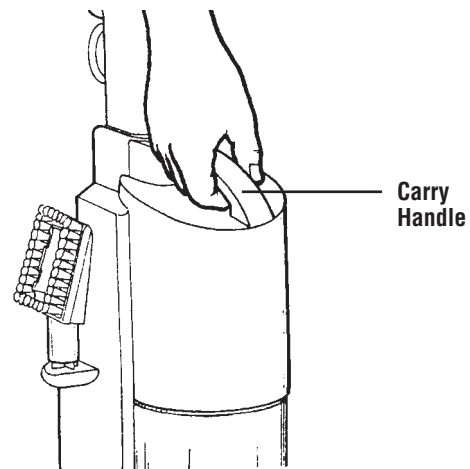

Figure 7
2. Locate the Carry Handle on the top of the Vacuum Cleaner. (See Figure 7.)